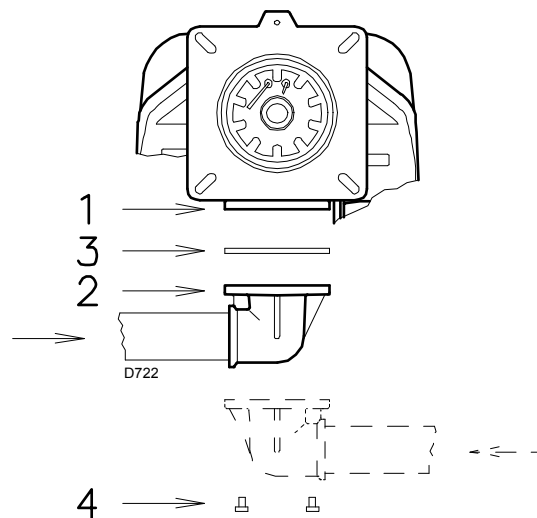

Fig. 19
- The gas train can enter the burner from the right or left side, depending on which is the most convenient, see Fig. 19.
- The gas train must be connected to the gas attachment 1) (Fig. 19) with the flange 2), the gasket 3) and the screws 4) supplied with the burner.